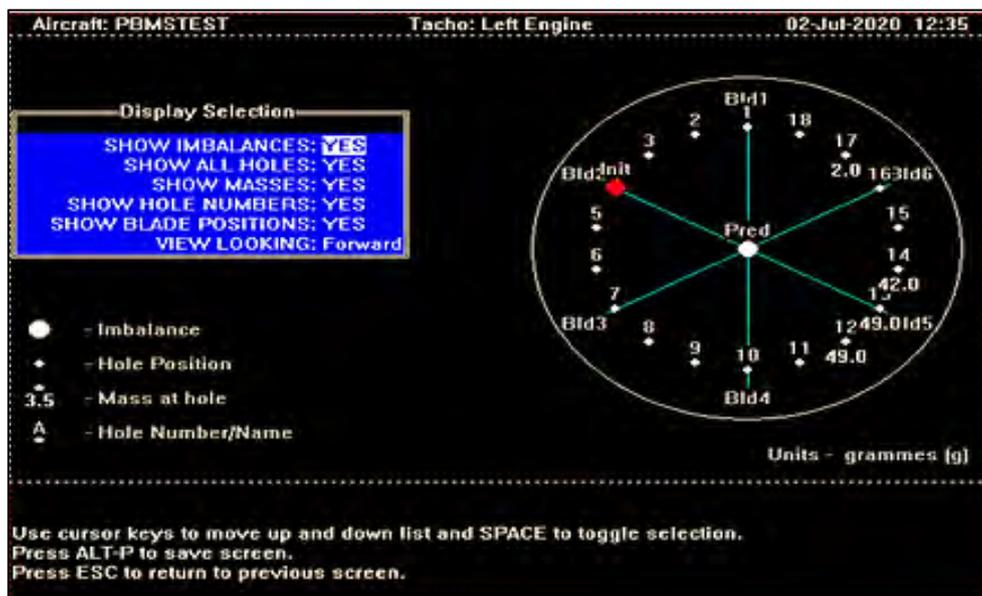

Figure 4-9 Balance Graphical Display (Forward View)
- (1) The Graphical display can be accessed from the Calculate New Balance screen by pressing the <TAB> Key as soon as the data on Initial Masses has been entered.
- (2) The Balance Graphical display provided the following Data:
- (3) **Figure 4-9** shows a typical Balance Graphical display.